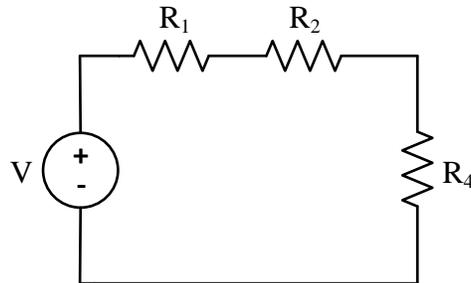

Figure 4. Voltage Divider with Three Series Resistors.
Task A5: Remove resistors R3 and R5 from your circuit to create the circuit shown in Figure 4.
Task A6: Measure and record the voltages across the three resistors shown in Figure 4. Be sure to record the polarities of the voltages.
4. Verify the voltage divider relation for the circuit shown in Figure 4.